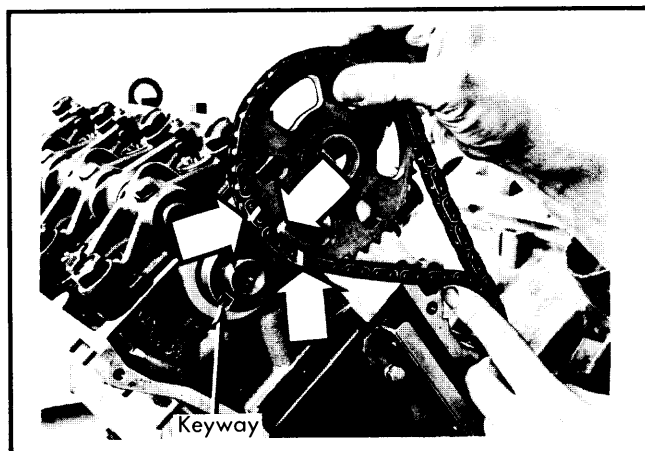

Fig. 11 Right Camshaft Keyway and Timing Marks
3) Rotate crankshaft clockwise 150° so that key points straight downward. Set right camshaft so keyway is in position shown in Fig. 11. Place chain on sprocket so link between white lines on chain aligns with sprocket timing mark. Place chain on crankshaft center sprocket so that chain and sprocket timing marks align. Fit sprocket on camshaft with chain stretched on tension side. Pin on sprocket should slip into camshaft recess. Use screwdriver to hold sprocket and torque center bolt to 51-59 ft. lbs.